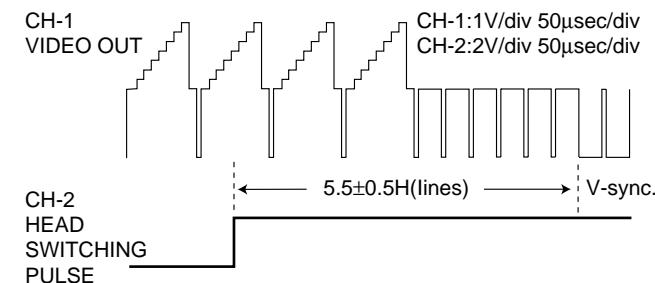

Figure 2-1.
- Press the PLAY button of remote control to make the adjustment of head switching point, then the leading edge of the head switching pulse is automatically set 5.5H (lines) ahead of the vertical sync as shown Figure 2-1 and the adjustment data is memorized in the E2P-ROM IC.